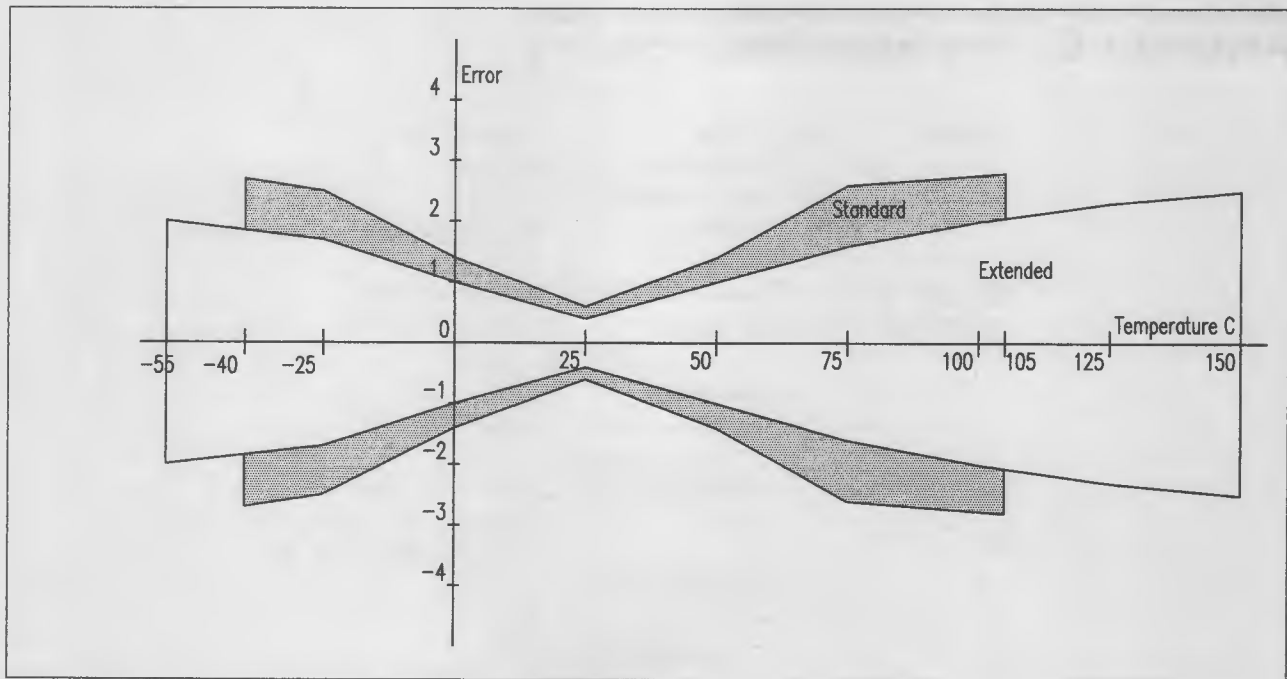

Figure 17. Worst-case error of temperature probes over their range
2. Temperature accuracy is non-linear over the total range of the the probe. Figure 17 on page 78 outlines the worst case error in degrees Celsius for both the Standard and the Extended Temperature Probes.